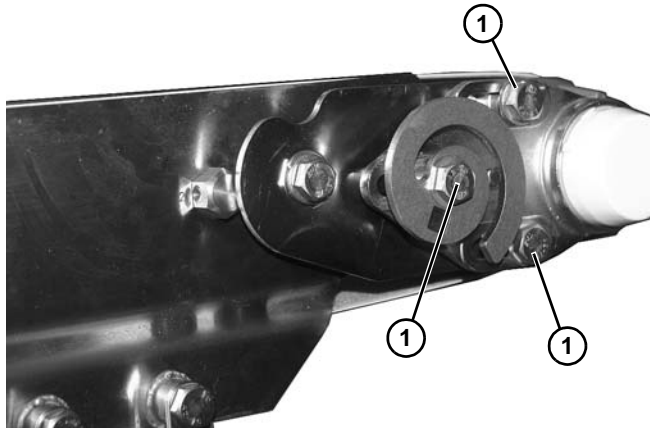

Figure 111
1. On idler end, loosen three screws (**Figure 111, item 1**) on each side of conveyor.